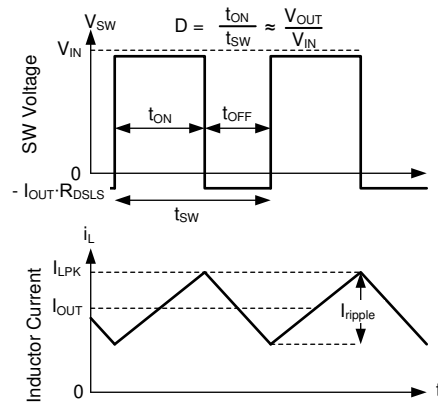

Figure 7-10. SW Voltage and Inductor Current Waveforms in Continuous Conduction Mode (CCM)
The following operating description of the LM656x0-Q1 refers to Section 7.2 and the waveforms in Figure 7-10. Both supply a regulated output voltage by turning on the internal high-side (HS) and low-side (LS) NMOS switches with varying duty cycle (D). During the HS switch on-time, the SW terminal voltage, V_{SW} , swings up to approximately V_{IN} , and the inductor current, i_L , increases with a linear slope. The HS switch is turned off by the control logic. During the HS switch off-time, t_{OFF} , the LS switch is turned on. Inductor current discharges through the LS switch, forcing V_{SW} to swing below ground by the voltage drop across the LS switch. The regulator loop adjusts the duty cycle to maintain a constant output voltage. D is defined by the on-time of the HS switch over the switching period: $D = T_{ON} / (T_{ON} + T_{OFF})$.